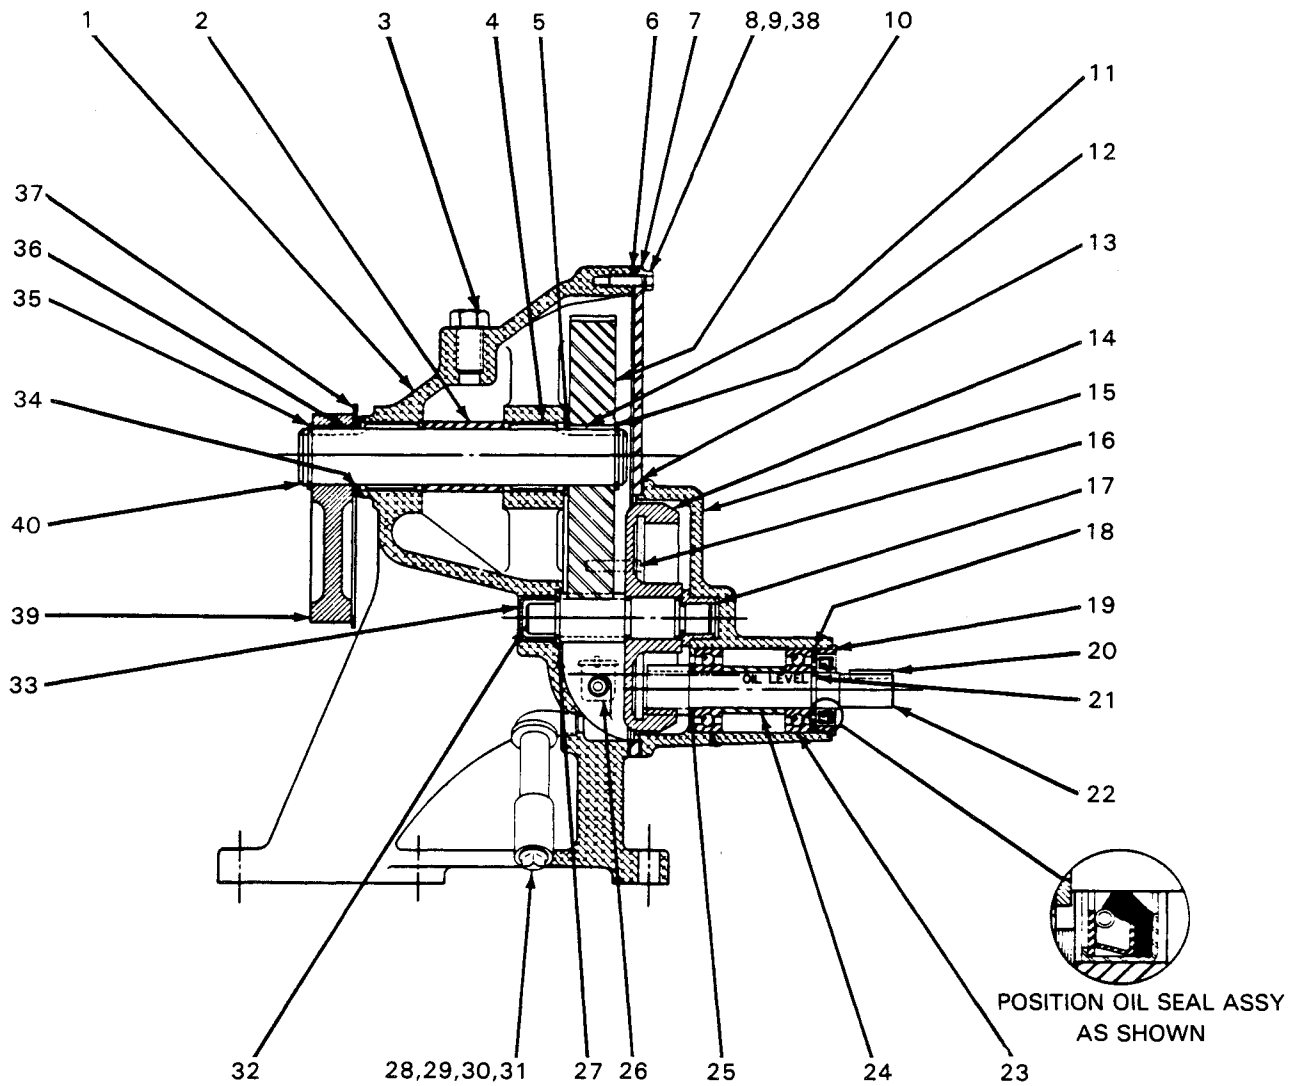

Figure 4. 44161-008 Gear Box Assembly
**Gear Box Disassembly (See figure 4)**
#### Gear Box Reassembly (See figure 4)